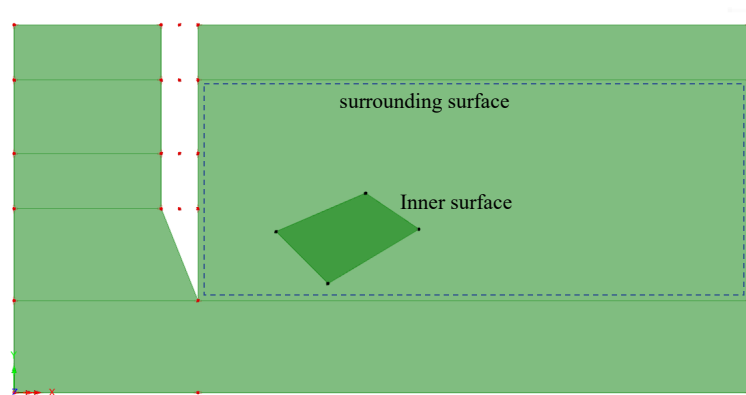

Figure 9: Definition of surfaces
- Select **Geometry > Surface > By Points...** to define the soil surfaces shown in figure 9. Note that an interior surface is generated from the points which define the anchor grout.